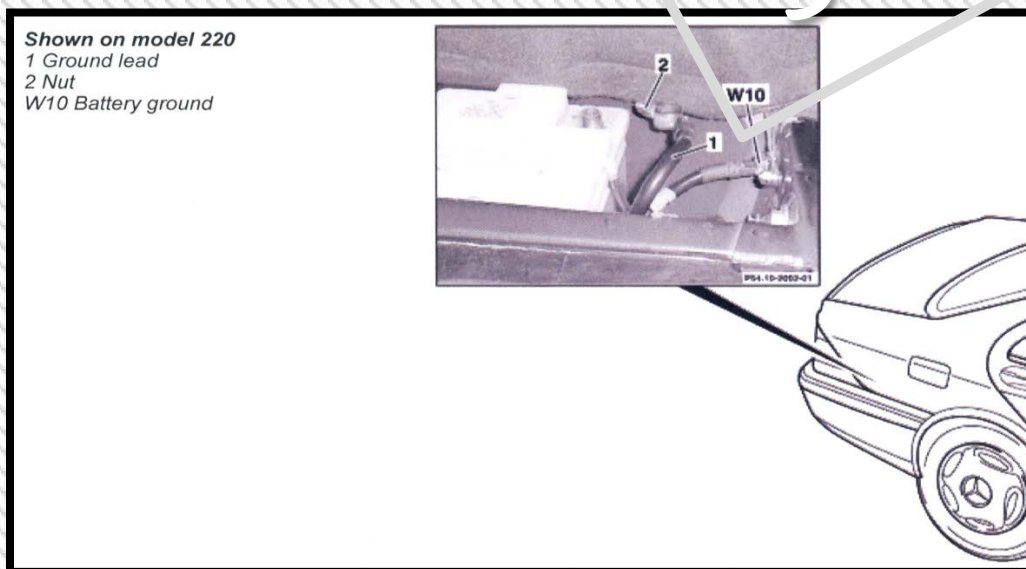

Figure 1.0
8.0 Disconnect battery (Ground lead). (figure 1.0)